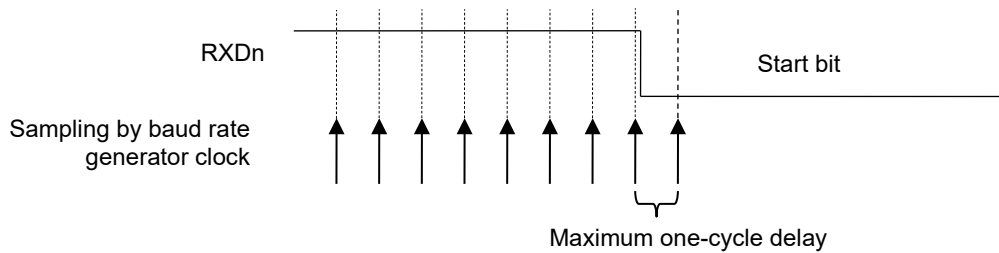

Figure 14-6 Start Bit Detection Timing (with Positive Logic)
When detecting a start bit ((2) in Figure 14-6), It generates the internal transfer clock of the baud rate set with the start bit detect point as a reference and performs reception operation.
The shift register shifts in the data input to RXD on the rising edge of the internal transfer clock. The data and parity bit are shifted into the shift register and 5- to 8- bit received data is transferred to the reception buffer (UAnBUF0) concurrently with the falling edge of the internal transfer clock of (3) in Figure 14-6.
This module requests a UART reception interrupt on the rising edge of the internal transfer clock subsequent to the internal transfer clock by which the received data was fetched ((4) in Figure 14-6) and checks for a stop bit error and a parity bit error. When an error is detected, this module sets the corresponding bit of the UART n status register (UAnSTAT) to "1".
Figure 14-6 shows the start bit detection timing.